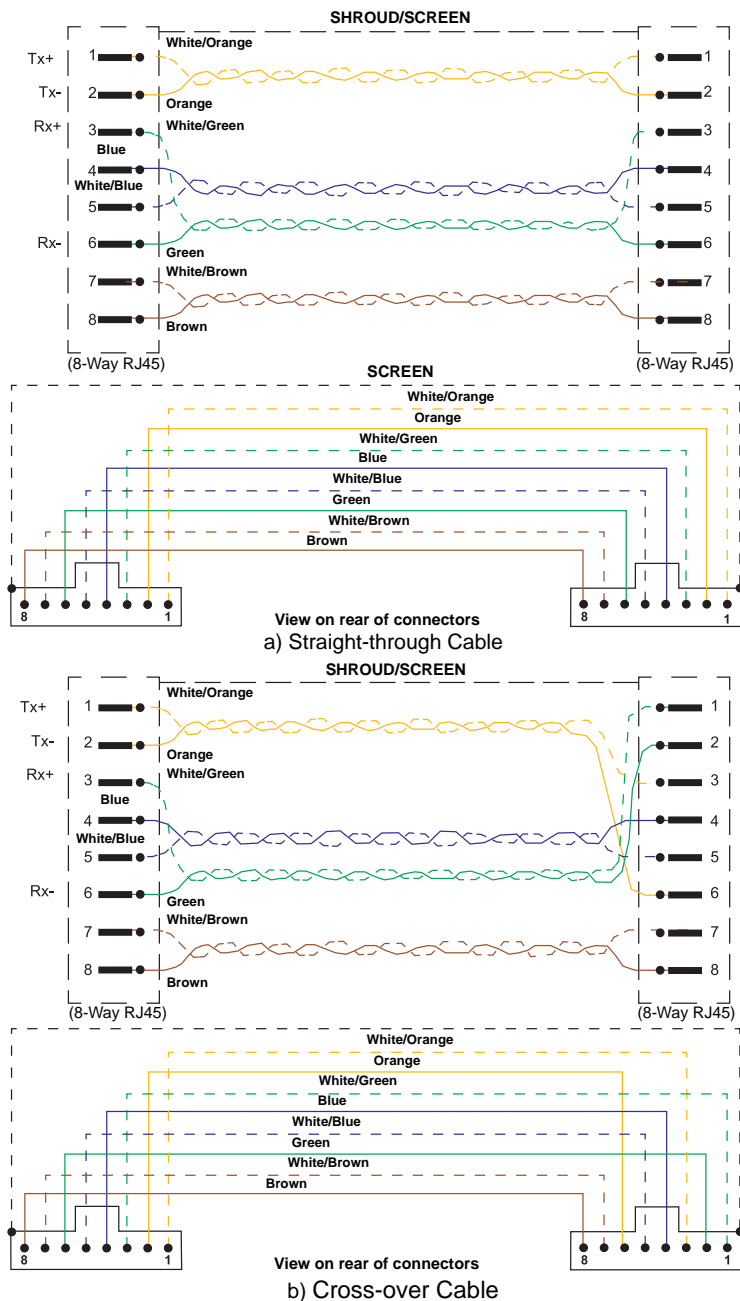

Figure 2.5.1c ELIN connection details
*Figure 2.5.1b* and *Figure 2.5.1c* show the connector pinouts for the Ethernet communications.
The use of standard industrial ‘off-the-shelf’ Ethernet switch is recommended, using ‘Straight-through’ cables (Figure 2.5.1c). For further details, the *LIN/ALIN Installation and User Guide* (Part no. HA082429U005) should be referred to.